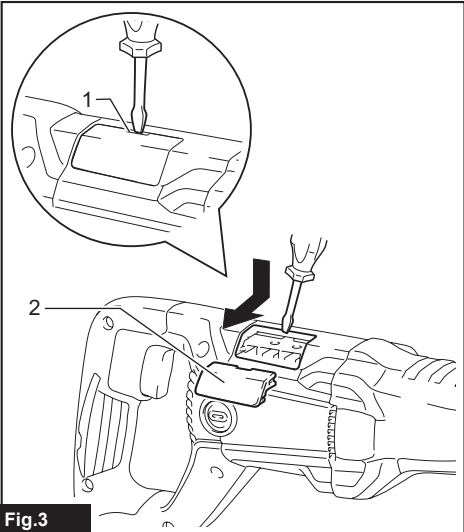

Fig.3
- **Fig.3:** 1. Notch 2. Cover